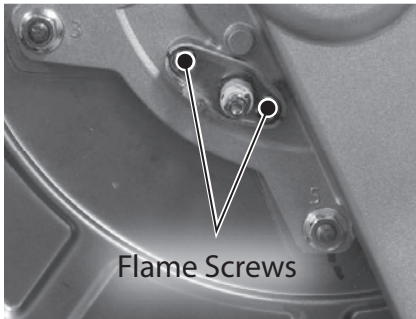

Figure 70 - Remove flame sensor screws
- 6 Use a Phillips screwdriver to remove the two (2) screws securing flame sensor to the burner assembly as shown in Figure 70. Place screws aside in a safe place for reinstallation.